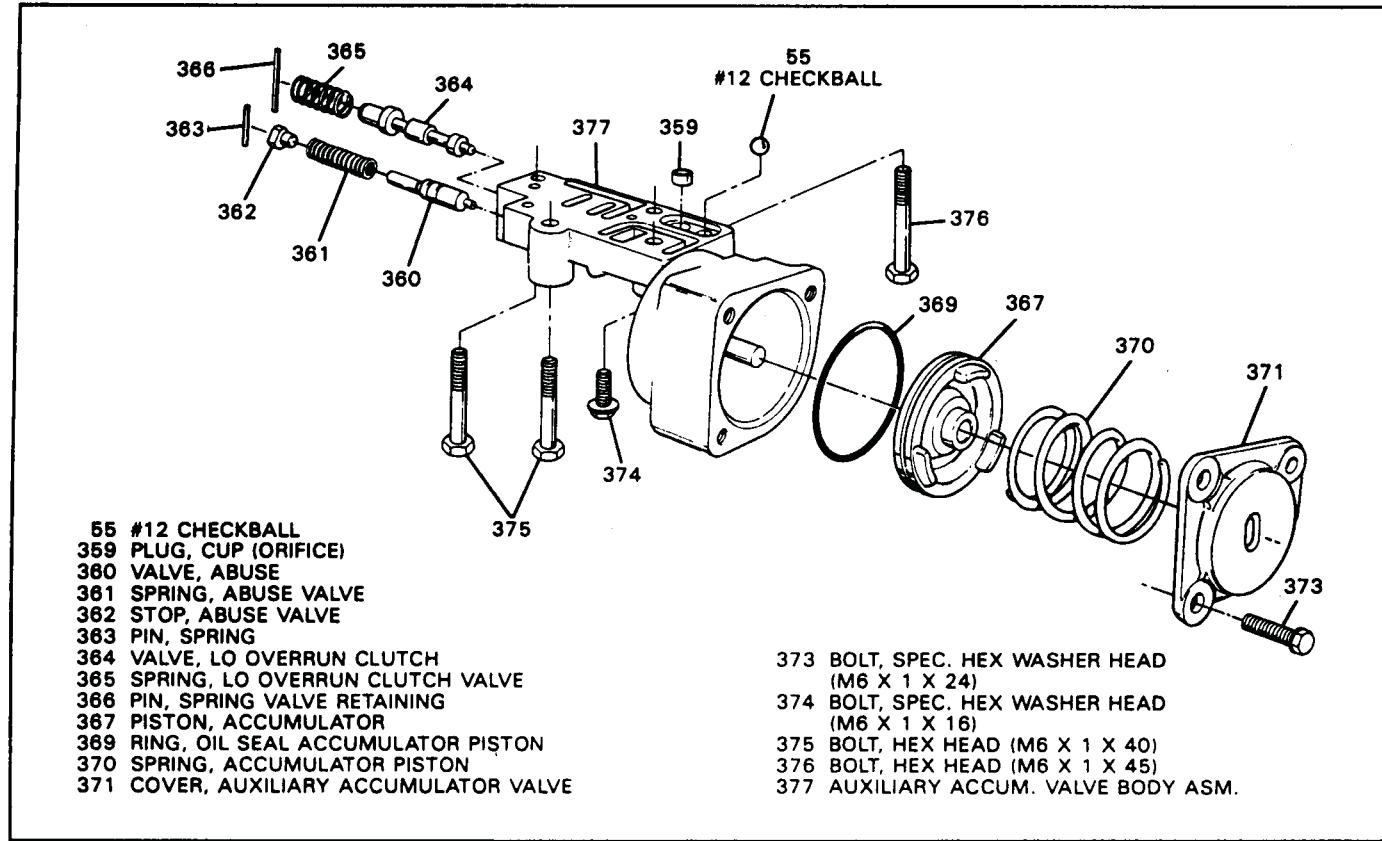

Figure 191
12. Assemble the auxiliary valve body EXACTLY as shown in Figure 191, using a new seal on the forward clutch accumulator piston.
13. Torque the three accumulator cover bolts to 8 ft.lbs. (Figure 191).
14. Install the No. 12 checkball into the auxiliary valve body in the position shown in Figure 191, and retain with a small amount of Trans-Jel.
15. Ensure that it is installed NEXT TO the orifice cup plug and NOT on top of cup plug (See Figure 191).